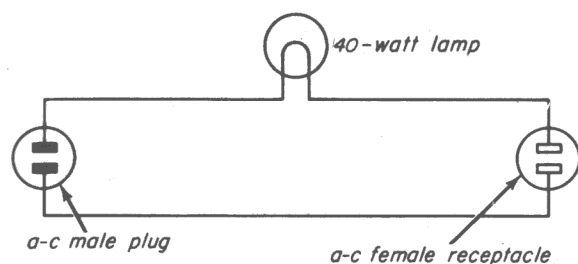

Fig. 37-4
Information. Many times a B+ short that develops in a receiver can be found most readily when a-c power is applied to the receiver and the operating voltages are allowed to develop. But if this is done, the short in the receiver may cause excess current to flow and damage the rectifier tube, the power transformer, or some other component in the receiver. Sometimes, the B+ short will cause fuses to blow. It is embarrassing when this happens in the customer's home. By the use of a series protective lamp, fuse blowing will be prevented and further damage to the receiver will be minimized. If a receiver is connected to the a-c power through a series incandescent lamp as shown in Fig. 37-4, all the current taken by the receiver must pass through the lamp. If a 40-watt lamp is used, the amount of current taken by a properly operating small receiver will be just
Step 1. Prepare a simple protective lamp circuit such as the one shown in Fig. 37-4.